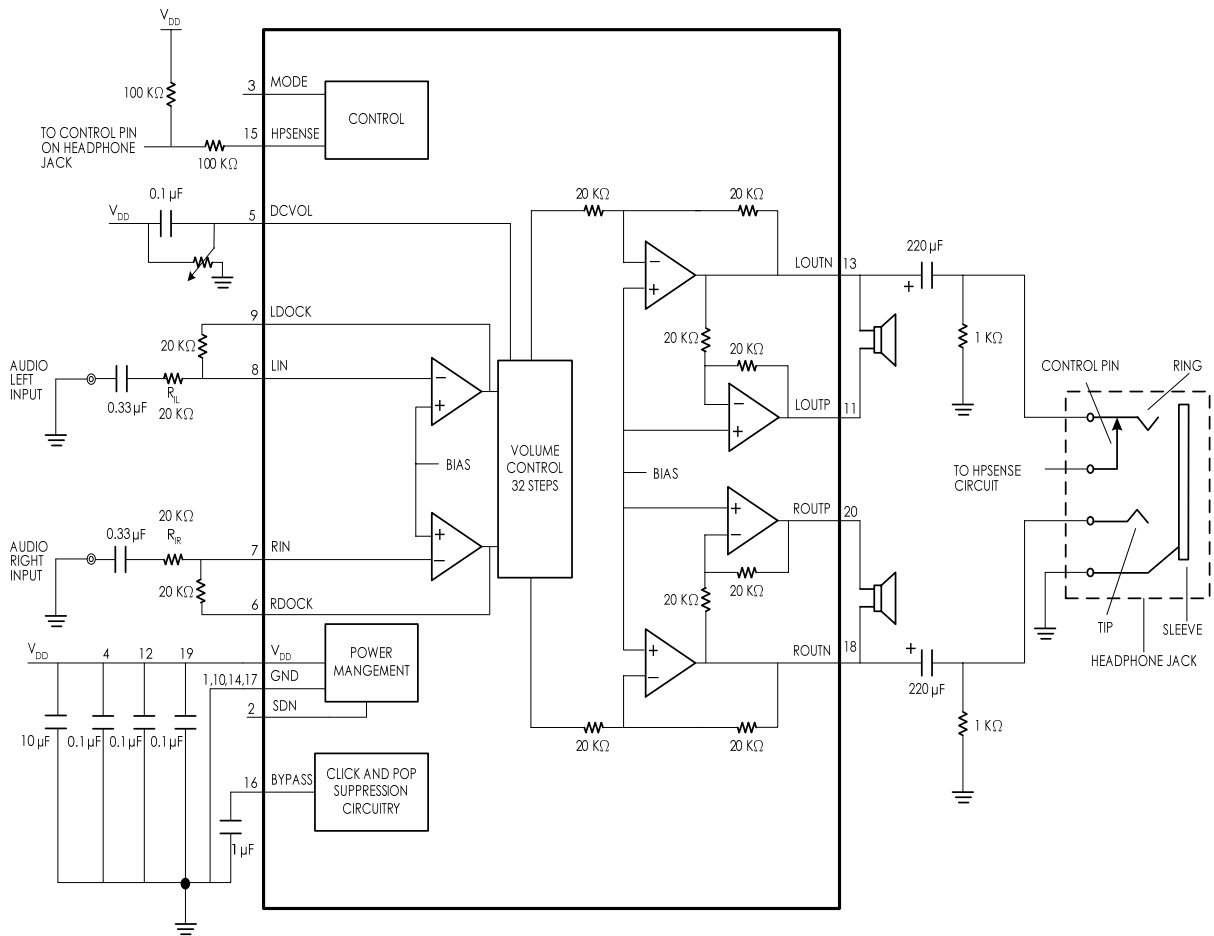

Figure1. Typical Audio Power Amplifier Application Circuit
**Note 4:** All voltages are measured with respect to the ground pins, unless otherwise specified. All specifications are tested using the typical application as shown in *Figure 1*.
Amplifying the lowest audio frequencies requires high value input coupling capacitor (0.33 $\mu$ F in *Figure 1*). A high value capacitor can be expensive and may compromise space efficiency in portable designs. In many cases, however, the speakers used in portable systems, whether internal or external, have little ability to reproduce signals below 150 Hz. Applications using speakers with this limited frequency response reap little improvement by using large input capacitor.
As shown in *Figure 1*, the input resistor (20k $\Omega$ ) and the input capacitor produce a -3dB high pass filter cutoff frequency that is found using Equation (1).
As an example when using a speaker with a low frequency limit of 150Hz, the input coupling capacitor, using Equation (1), is 0.063 $\mu$ F. The 0.33 $\mu$ F input coupling capacitor shown in *Figure 1* allows the EMA2203 to drive high efficiency, full range speaker whose response extends below 30Hz.
Since the DOCK outputs precede the internal volume control, the signal amplitude will be equal to the input signal's magnitude and cannot be adjusted. However, the input amplifier's closed-loop gain can be adjusted using external resistors. These resistors are shown in *Figure 1* as 20kΩ devices that set each input amplifier's gain to -1. Use Equation 2 to determine the input and feedback resistor values for a desired gain.